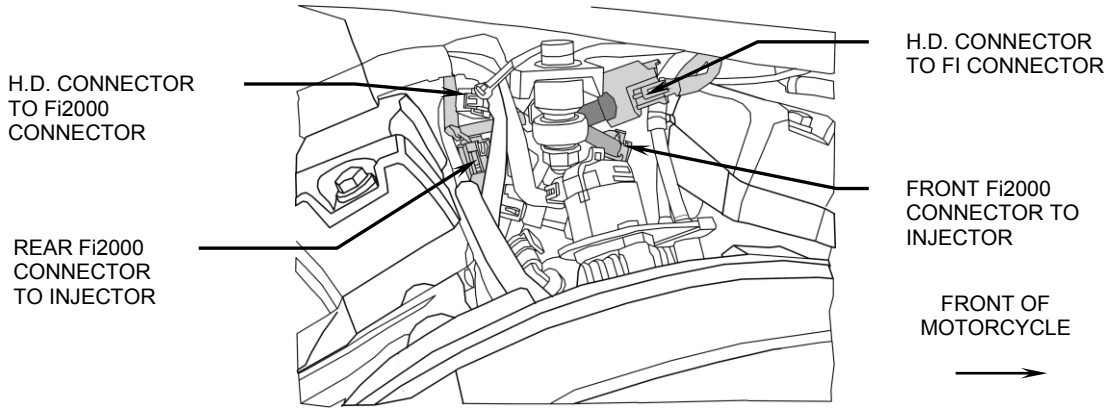

FIGURE 1
2. Locate the factory connector on each fuel injector. Depress the tab on the connector and pull the connector free from the injector and move it out of the way. **Note:** A pair of needle nose pliers and a long flat blade screwdriver helps with this job, see Figure 1.
4. Route the Fi2000 module's injector plugs behind the existing wires and under the upper motor mount assembly. Connect one pair of the Fi2000 injector plugs onto the front injector and insert the black connector into the original Harley connector, see Figure 1.
5. Attach the Fi2000 module's remaining injector plug onto the rear injector. Then take the original female HD connector and insert the corresponding male Fi2000 connector, refer to Figure 1. Tuck both front and rear injector connections out of the way.